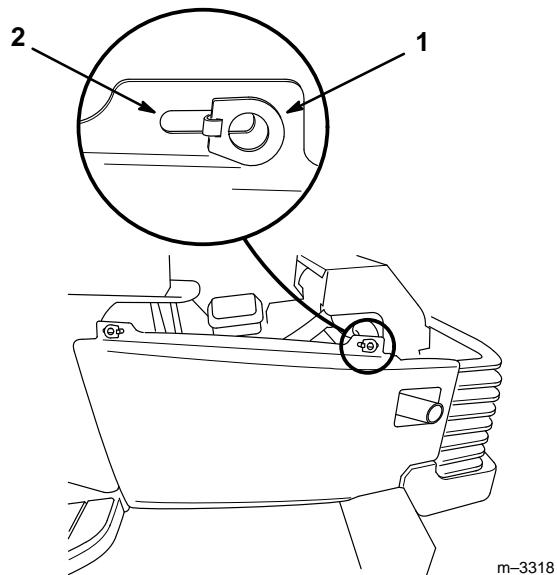

Figure 3
- A. Lift up and twist each of the two side panel latches 90° , or until they line up with the open slot (Fig. 3).